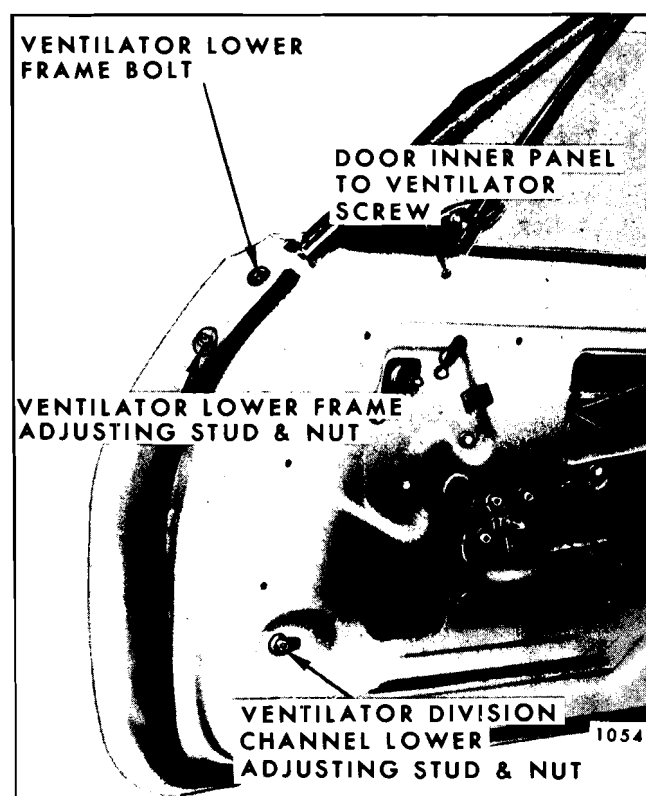

Fig. 6-75—Front Door Ventilator Attachments - "Z" Styles
2. Remove ventilator division channel lower adjusting stud nut and ventilator to door inner panel attaching screw (See Figure 6-75). Turn stud as far as possible out of contact with door inner panel.
3. On door hinge pillar, remove ventilator frame attaching bolt and ventilator frame lower adjusting stud nut (See Figure 6-75).
1. A slight fore and aft adjustment of ventilator division channel is available at lower adjusting stud and nut (Figure 6-75) by loosening attaching nut and sliding stud in slot provided. The division channel can also be positioned in or out by loosening nut and turning stud in or out as required and tightening nut.
NOTE: Adjustment No. 2 first requires loosening of ventilator front frame lower attaching bolt (See Figure 6-75).